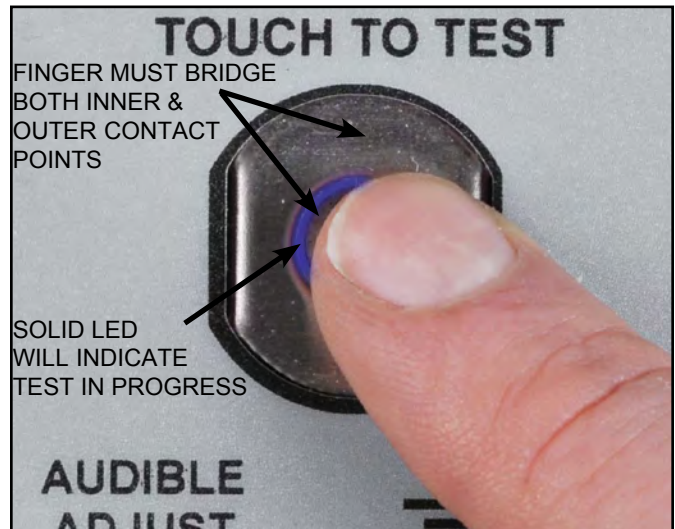

Figure 9. Bridge test contacts with finger
- III. To start the test, the operator's finger must bridge both the inner and outer contacts when touching the test contact. The circling blue light will become solid to indicate that a test has been activated. Hold down for up to 3 seconds while flexing coil cord area near resistor. (See Figure 9) NOTE: Often the initial intermittency will be failure of strain relief connection to resistor as simulated by ESD S1.1-1998 paragraph 5.7 Bending Life Test.